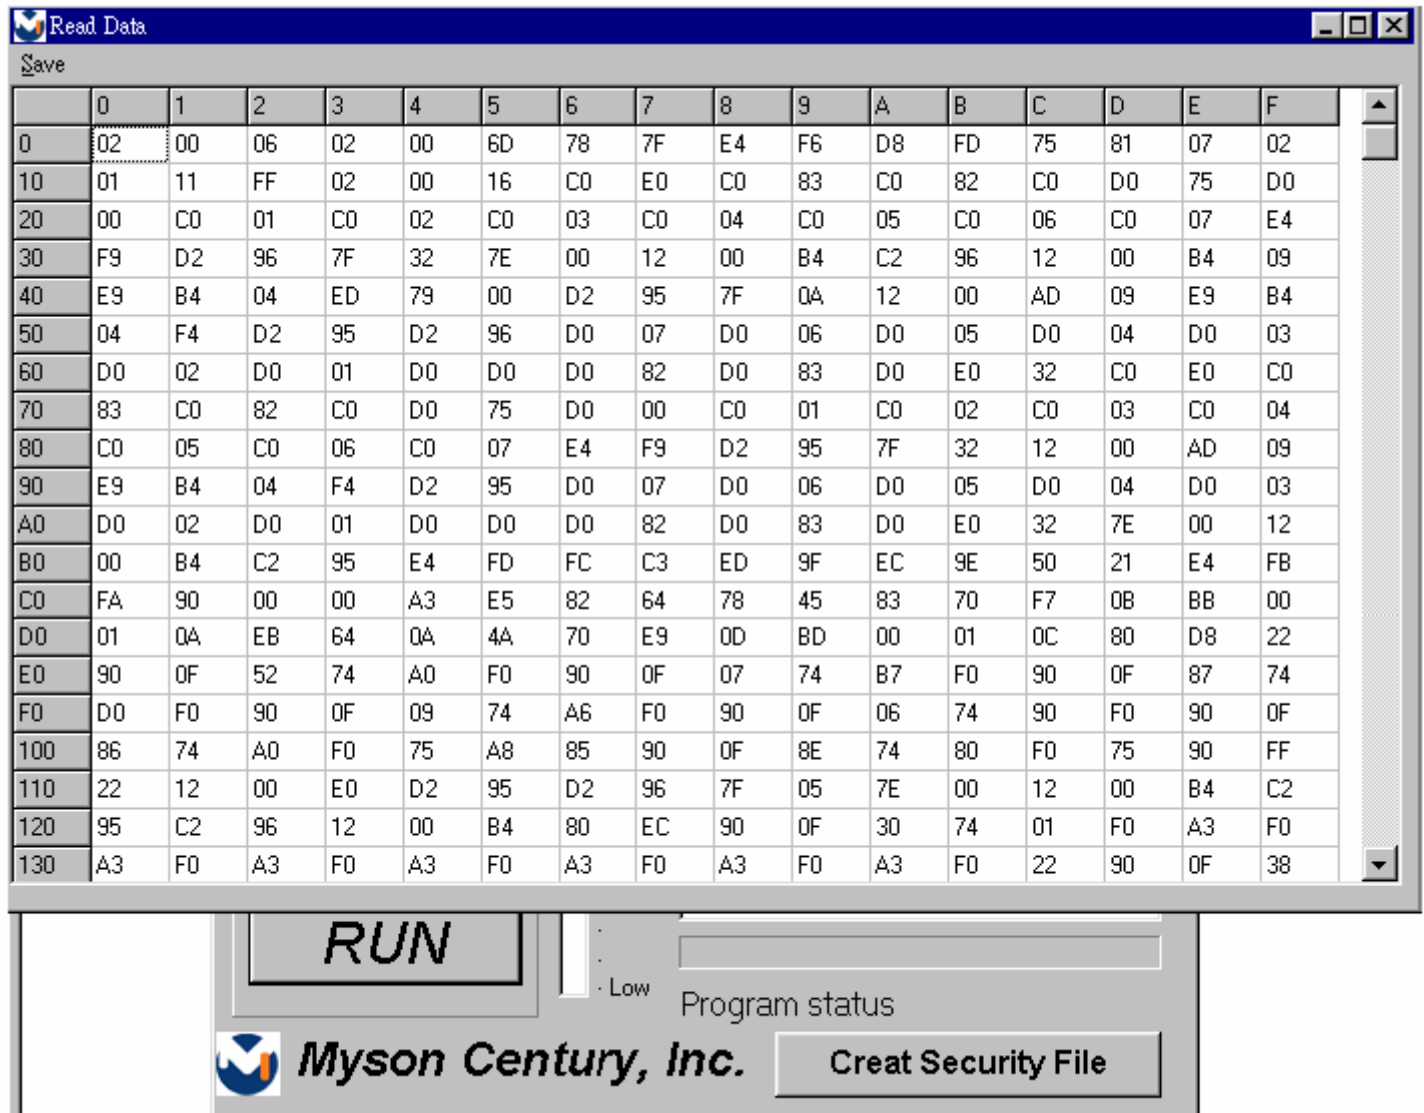

Fig 5.1
5.1 Only software ISP could read the MCU content, it is according to program the boot code while coding. The limitation is used for the security of customer' s code. Select “Read Target” item, and press “RUN” button, the MCU content will show as Fig 5.1.